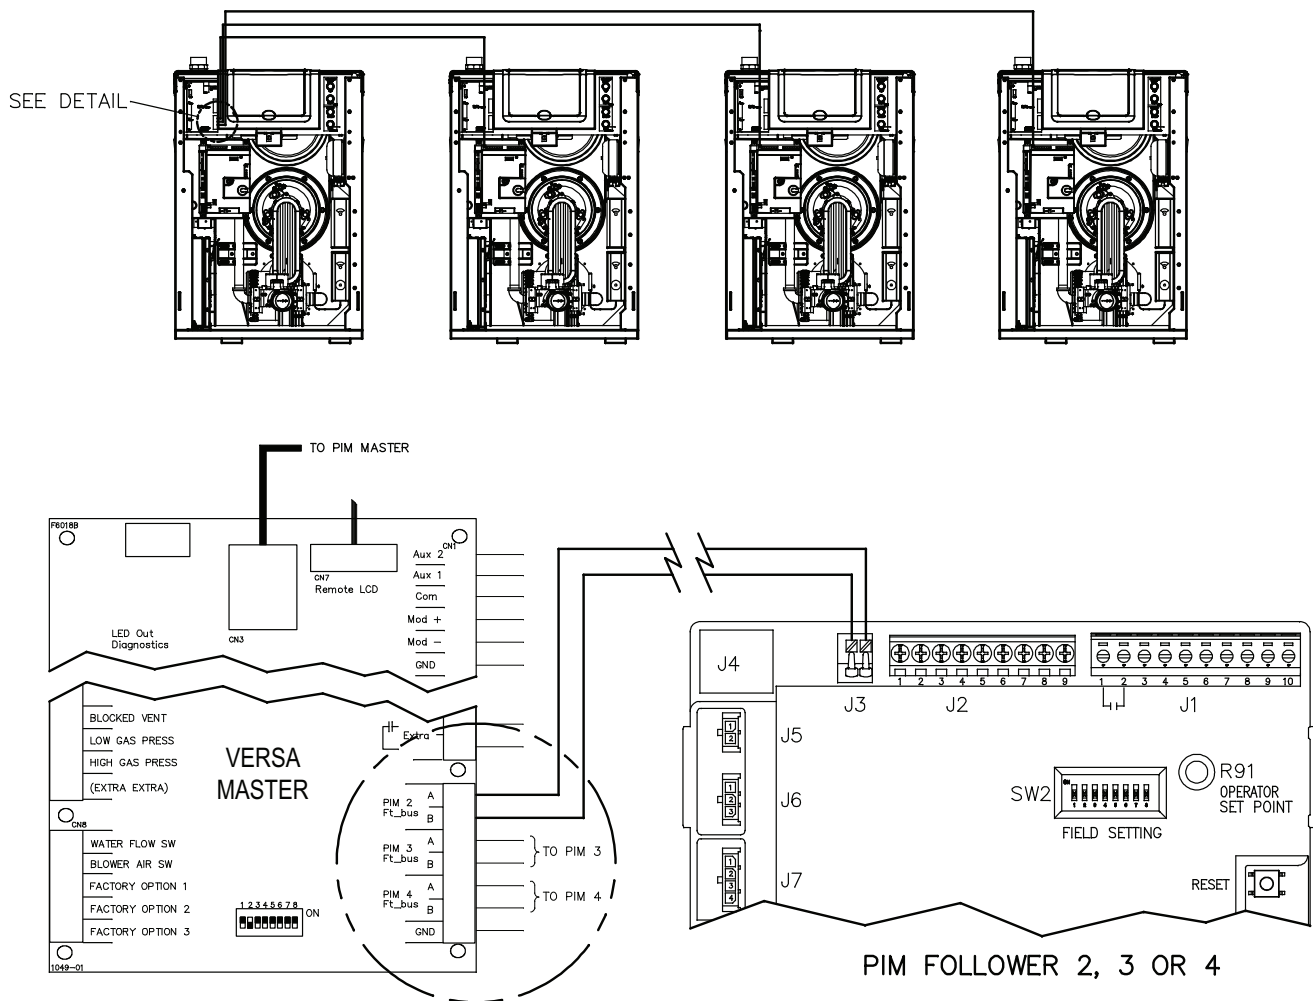

Fig. 20: XFyre Cascade System Wiring
1. Once the primary boiler has been identified, additional boilers will be designated as follower boilers. Ensure DIP switch 2 on each follower VERSA is set to the OFF/Down position (See Fig. 20)